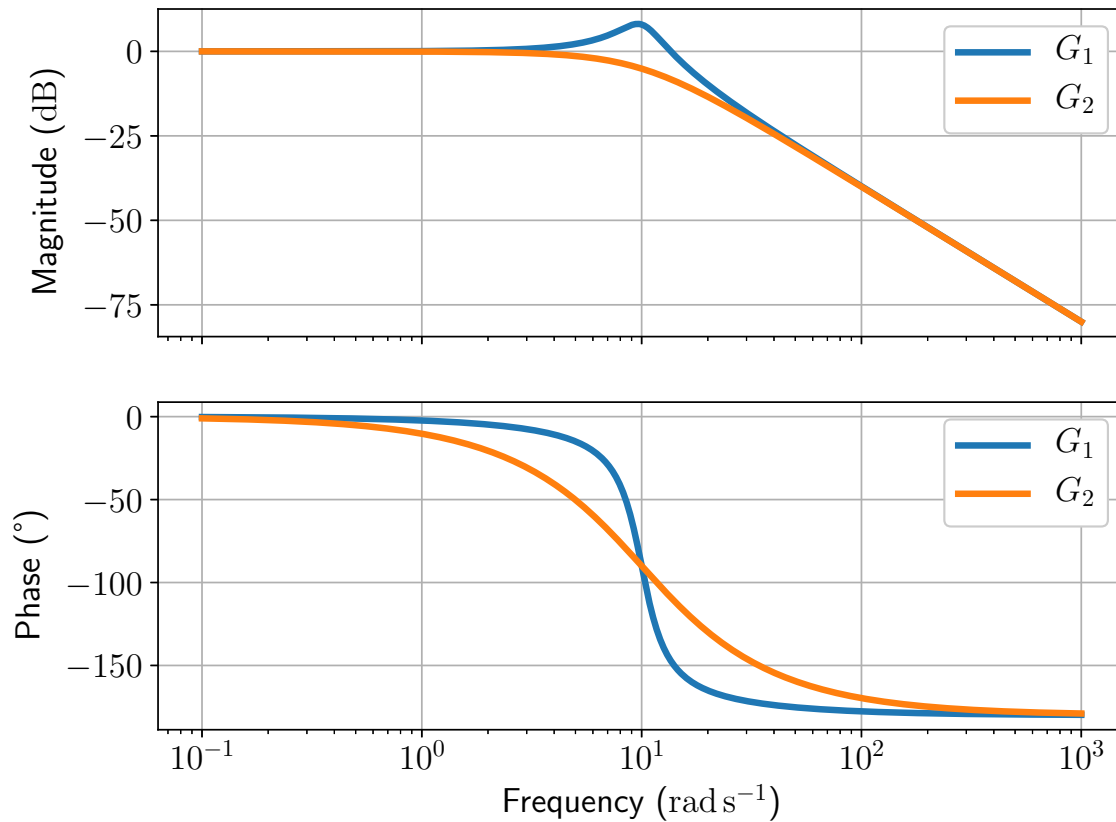

Figure 1: Frequency Response
**Problem 2** The frequency response of two systems are shown in Figure 1. Using the plots, circle the correct descriptions: